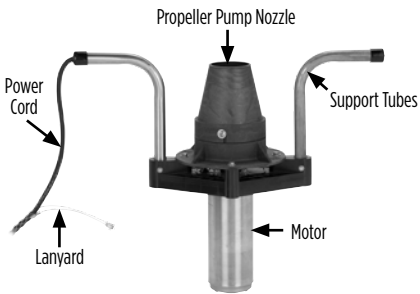

Figure 2
- ii. Rotate the pump/motor assembly so the power cord is oriented with the power cord channel in the float (Figures 2 and 3).
- v. Connect lanyard to eye-bolt of float (Figures 2 and 3).
- a) Disconnect the lanyard to detach the power cord from the float (Figure 2).
- Rotate the pump/motor assembly so the power cord is oriented with the power cord channel in the float (Figures 2 and 3).
- Connect lanyard to eye-bolt of float (Figures 2 and 3).